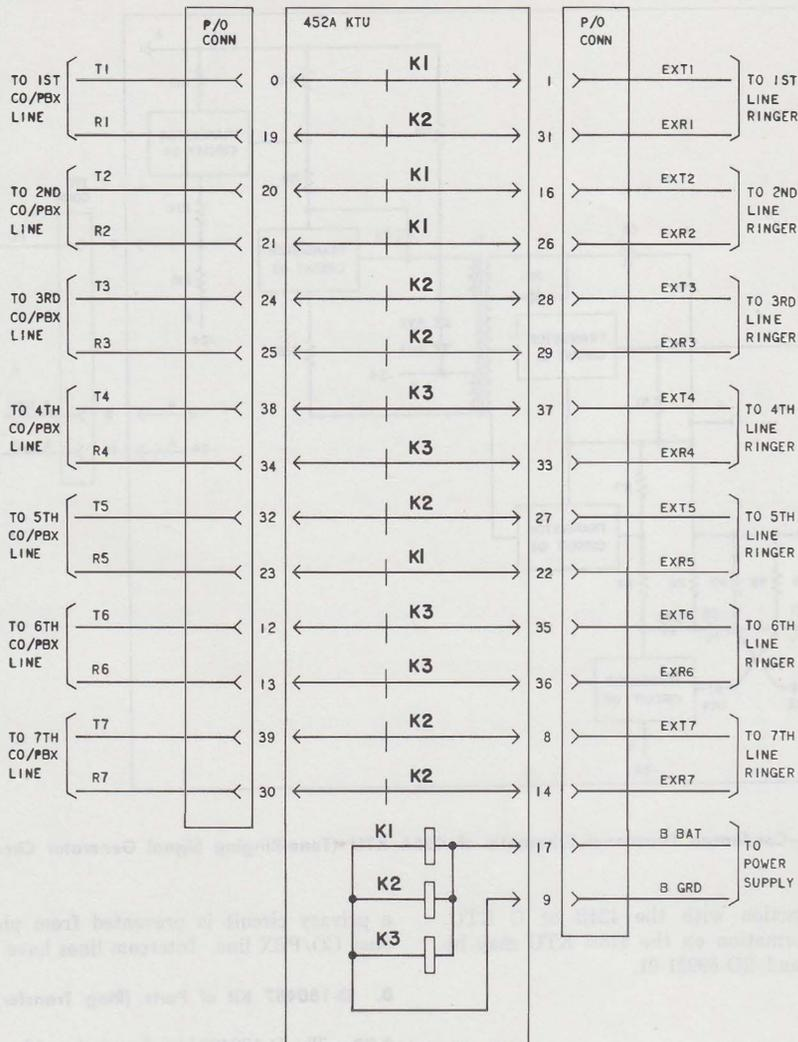

Fig. 16—Condensed Functional Schematic of 452A KTU (Power Failure Transfer Circuit)
2.22 The 452A KTU (Fig. 16) is a 4-inch unit that automatically "cuts through" up to seven CO/PBX lines to external line ringers in the event of power failure.